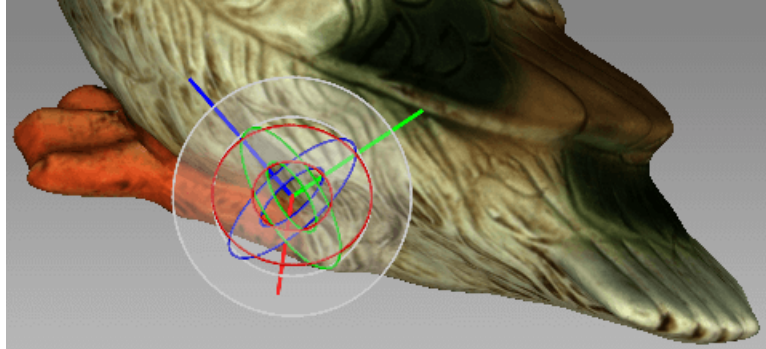

Figure 101: Rotation control
- Drag one of the three circles (see Figure 101) to rotate the object. Hitting the key that corresponds the required axis (**X**, **Y** or **Z**) will hide the controls for the other axes.